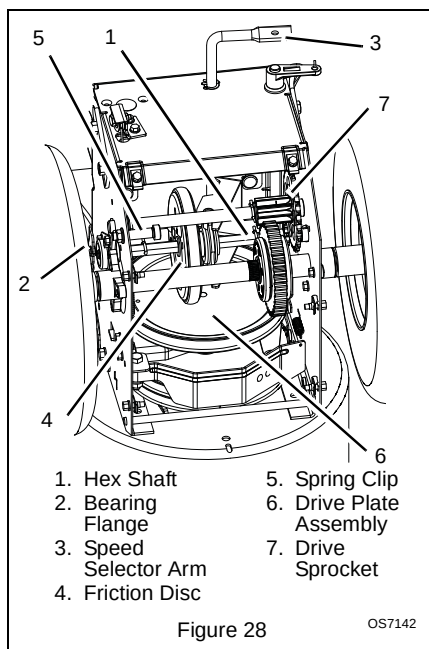

Figure 28
4. With the clutch disengaged, check that there is more than 1/32 in. (0.8 mm) clearance between friction disc and drive plate assembly. See Figure 28 on page 25.
(Figure 28):